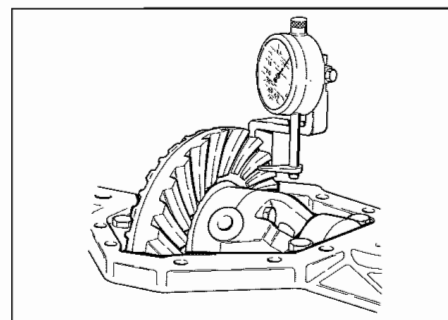

Fig. 36
42. Disporre un comparatore come mostrato in **Fig. 36**.
42. Position a dial gauge as shown in **Fig. 36**.